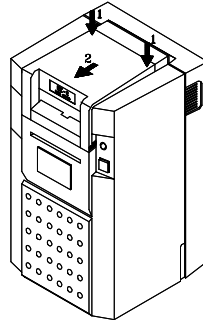

fig. 3.1.1
2. Gently press down the top cover with your thumbs, and pull it toward you to remove the top cover. (See figure 3.1.1 & 3.1.2)